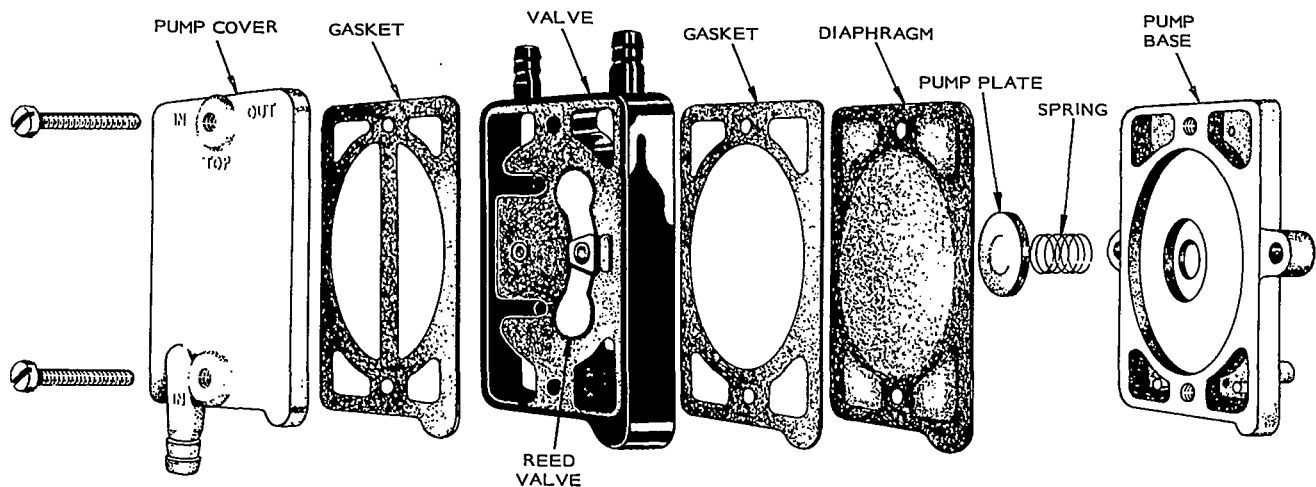

FIGURE 6. PULSATING-DIAPHRAGM FUEL PUMP ASSEMBLY
plate, pump body and gaskets will now be loose (Figure 6).
7. Replace gaskets and reassemble pump as shown in Figure 6.